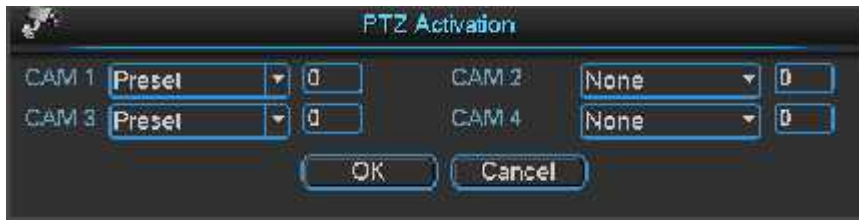

Figure 4-17
- PTZ activation: Here you can set PTZ movement when alarm occurs. Such as go to preset, tour & pattern when there is an alarm. Click “select” button, you can see an interface is shown as in Figure 4-17.